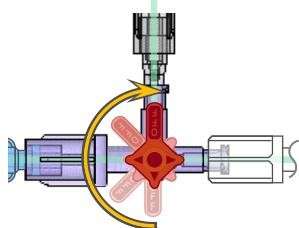

Figure 8 – System Bypass (Savings OFF)
- To bypass the DyeVert Power XT System (i.e. no diversion) orient the DyeVert Power XT Stopcock to OFF to the *Valve Selection Stopcock* (see Figure 8). The Power XT System should be bypassed for the following instances: saline flush of catheters or drug delivery.